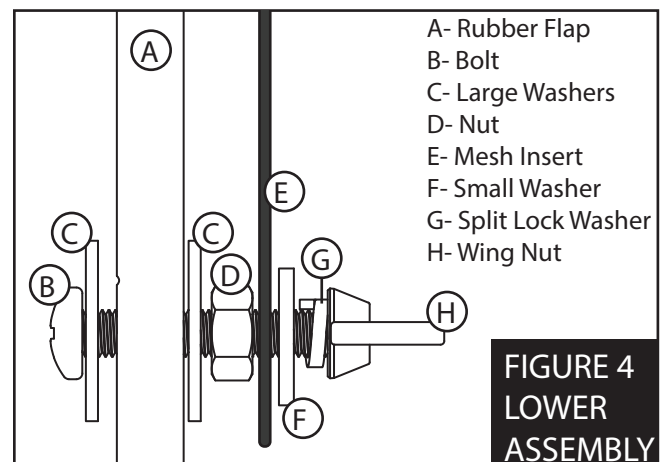

FIGURE 4
8. Place another large washer over the lower bolt, then lock the bolt into position using a nut (see Figure 4)